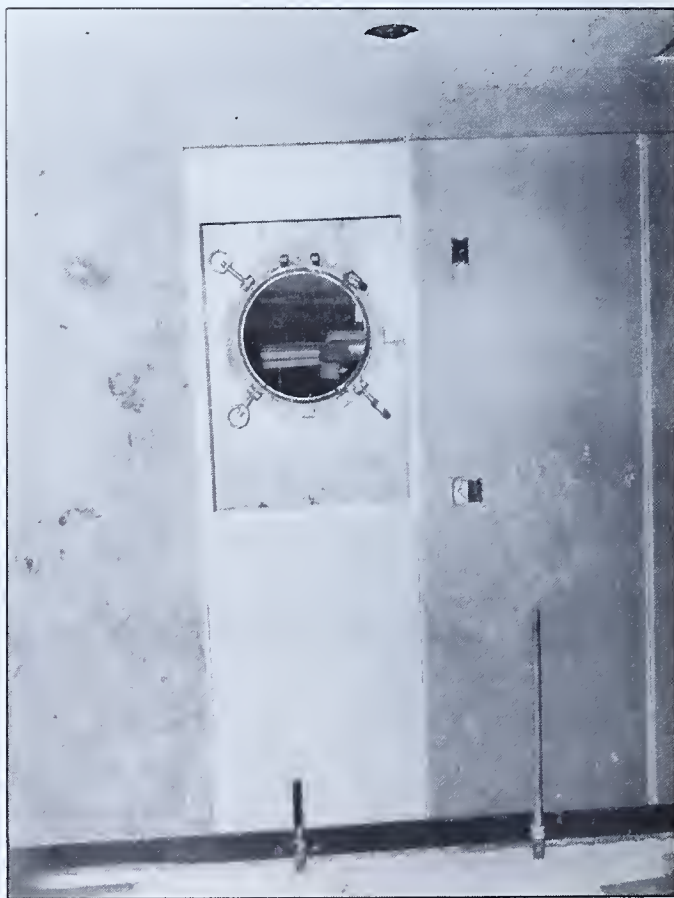

FIG. 91 — *Port Light Frame in Position*
2. Set the frame in position against the shell so that the port hole will be centered in the frame. See Fig. 91.